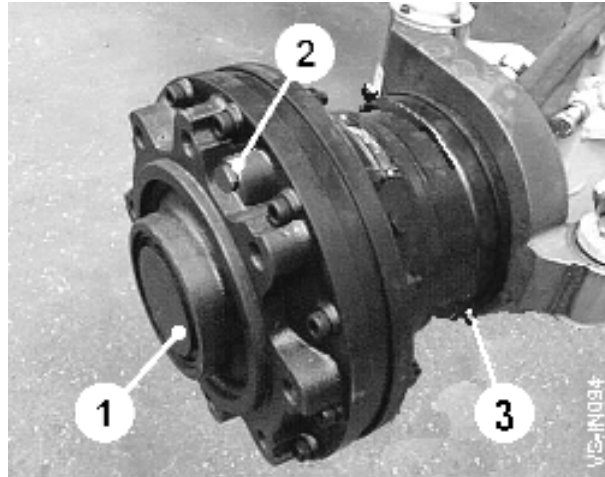

Fig 23
Place the wheel motor (item 1, fig 23) in a position in which the filler plug (item 2, fig 23) is at the top. Remove the plug and pour in hydraulic oil until all trapped air has been eliminated. Refit the plug and repeat for the second motor. Run the motors unloaded. Finally, operate the motors under load and check for leaks and extraneous noise.
To purge dirt from the grease collar remove one of the grease nipples (item 3, fig 23) completely and pump grease into the other nipple until clean grease comes out of the open hole. Finally, refit the nipple to close the system.